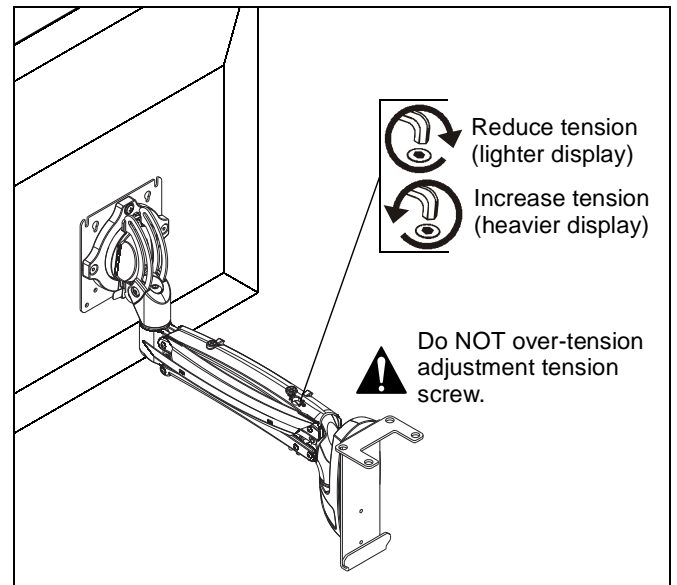

Figure 12
1. Tension may be adjusted with tension adjustment screw inside cable management cover and 1/8" hex key (Q). Turn clockwise to reduce tension or counter-clockwise to increase tension. (See Figure 12)